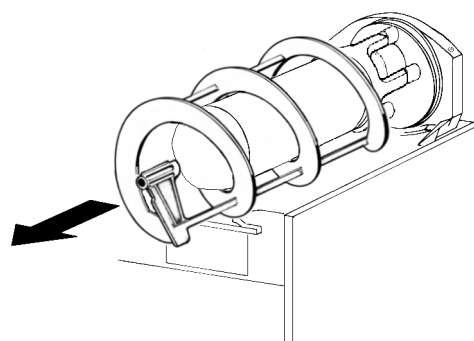
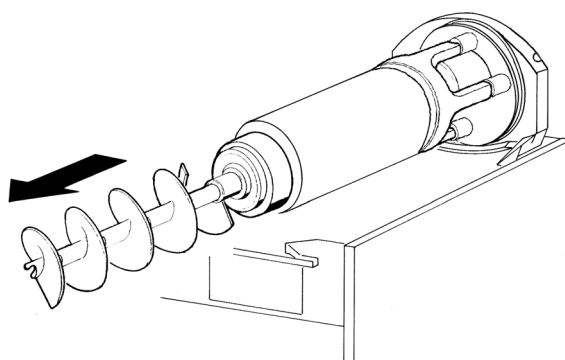

figure 8
figure 9
- 3 - Slide the outer spiral out (see figure 8) and then the inside auger (see figure 9).